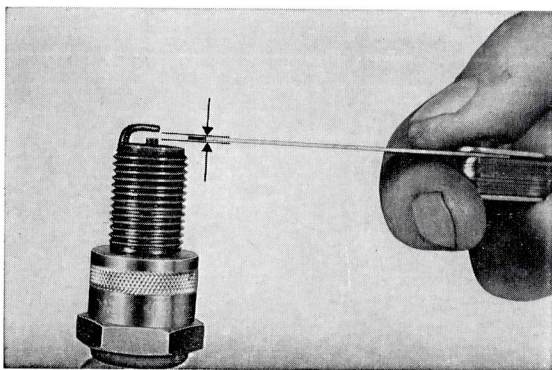

Fig. 6.13 Spark plug measuring (0.7~0.8 mm)
- b. After cleaning, adjust the electrode gap. Adjust with a thickness gauge so that the gap is 0.7 to 0.8 mm. (0.028~0.32 in) (Fig. 6.13)